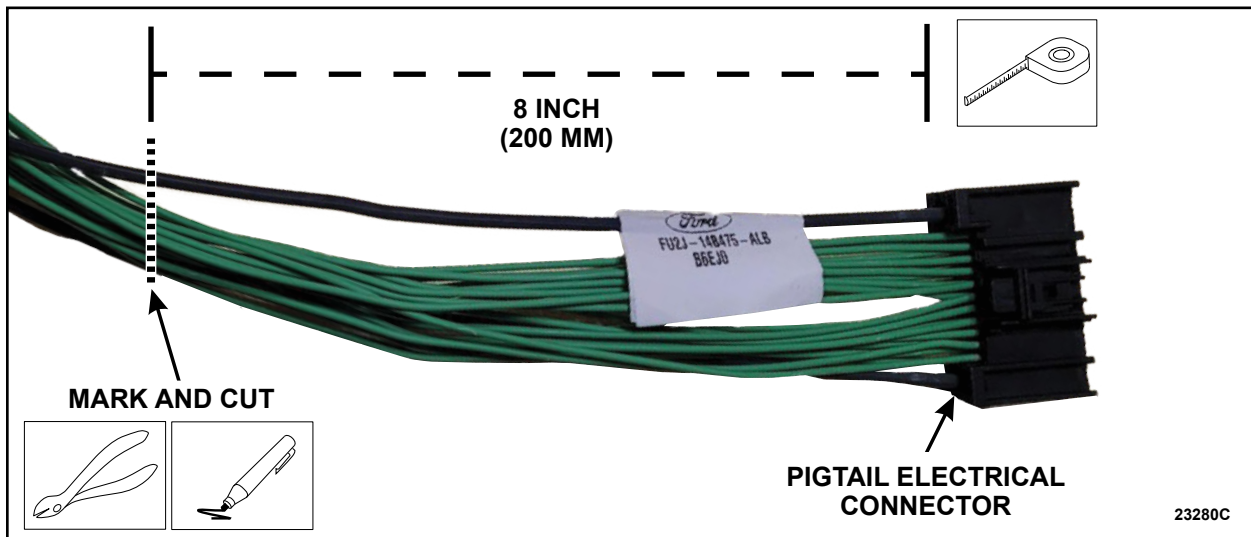

FIGURE 6
18. On the replacement pigtail, measure 8 inch (200 mm) from the back of the connector and cut off the excess wire. See Figure 6.